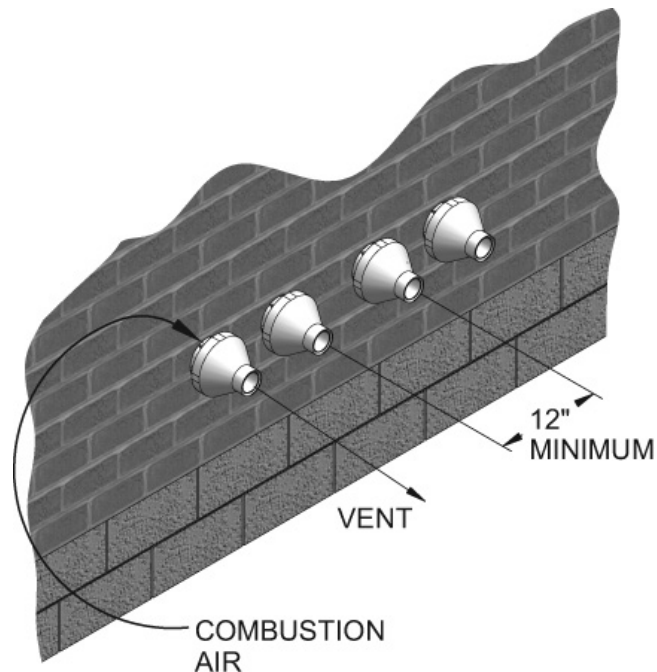

Figure 42. Concentric Vent and Combustion Air Termination
When two (2) or more direct vent appliances are vented near each other, each appliance must be individually vented (see Figure 42). NEVER common vent or breach vent this appliance. When two (2) or more direct vent appliances are vented near each other, two (2) vent terminations may be installed as shown in Figure 42. It is important that vent terminations be made as shown to avoid recirculation of flue gases.